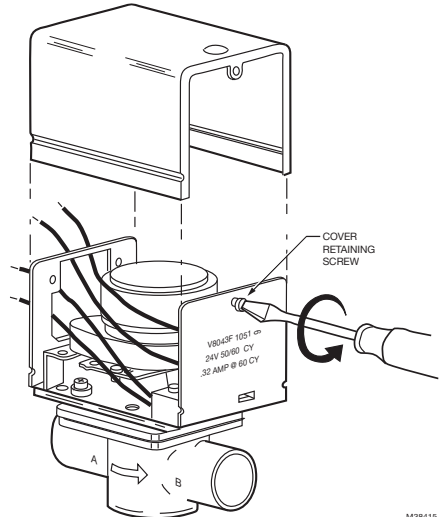

Fig. 1. Remove powerhead cover.
1. Remove powerhead cover (see Fig. 1).